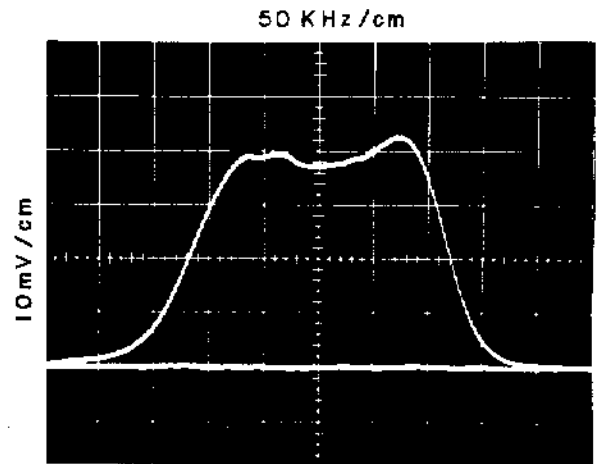

Figure 5-18. Typical A2A2FL1 Response
- (11) Adjust A2L19 and A2L20 for a maximum amplitude symmetrical response about the marker similar to Figure 5-18 (for clarity, the marker is not shown on the photograph).
- (12) Disconnect the test equipment.